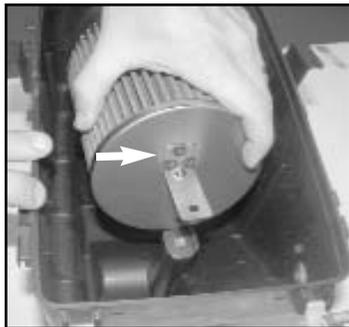

Fig. 1
4. Install the K&N Filtercharger® with the welded end of the bracket facing up. (Fig. 1) Do not tighten clamp at this time.